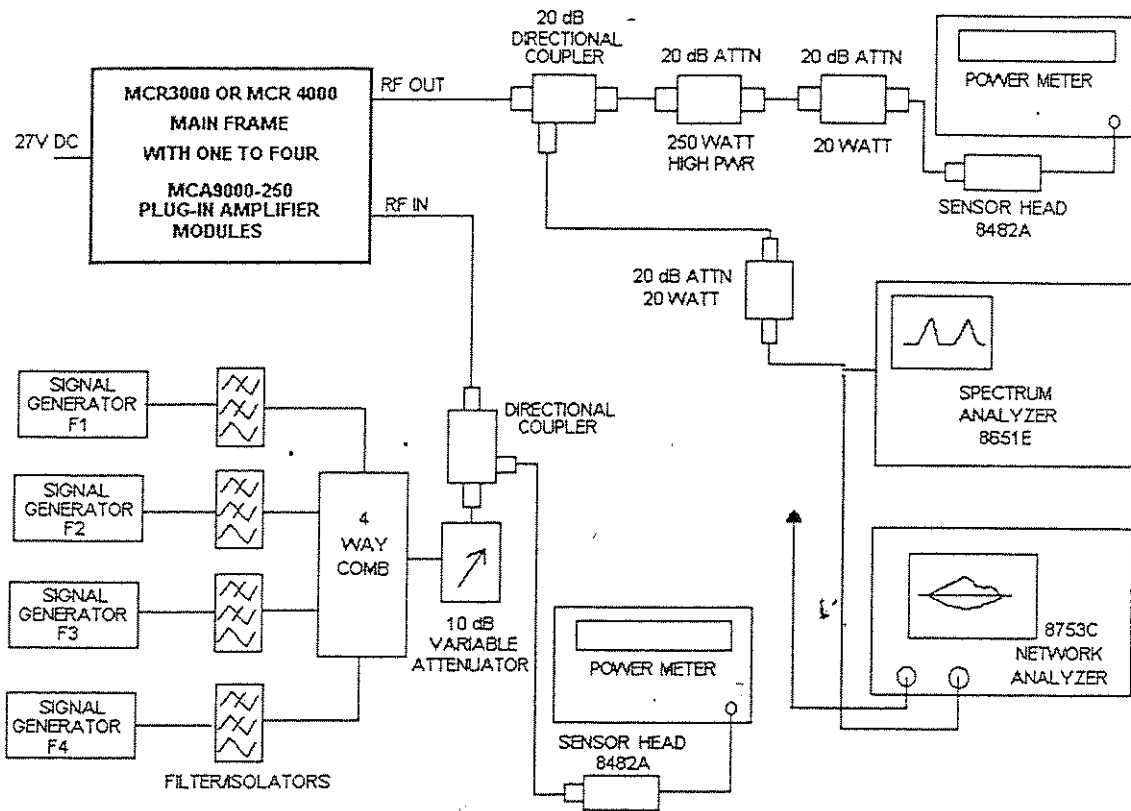

Figure 5-1. Amplifier System Test Setup Diagram
Performance testing should be conducted every 12 months to ensure that the amplifier system meets the operational specifications listed in table 5-3. Also verify system performance after any amplifier module is replaced in the field. The test equipment required to perform the testing is listed in table 5-2, and the test setup is shown in figure 5-1.
1. Connect test equipment to the main frame as shown in figure 5-1.